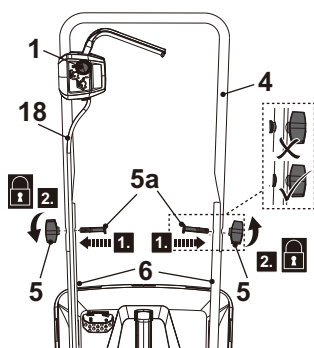

Fig. 2
1. Hold the upper handle bar (4) with the safety switch button (1) facing upwards. Align the mounting holes of the upper handle bar (4) and the lower handle bars (6).
2. Pass the mounting bolts (5a) through the mounting holes of the upper handle bar (4) and the lower handle bars (6) to the end (Fig. 2, step 1).
3. Make sure the electrical cord (18) runs on the handle bars.
4. Secure the handle bars on the other side by turning the knobs (5) through the thread of the mounting bolt (5a) (Fig. 2, step 2).